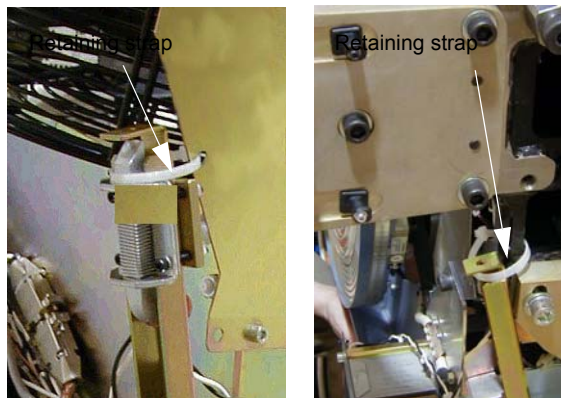

Figure 4-3 Service Position of Upper and Lower Cantrell Brackets.
- a.) Remove the upper Cantrell brackets from the service position and rotate them into position over their associated retaining pins (see Figure 4-3 and Figure 4-4).
- c.) Remove the lower Cantrell brackets from the service position (Figure 4-3), and rotate them into position over their associated retaining pins.